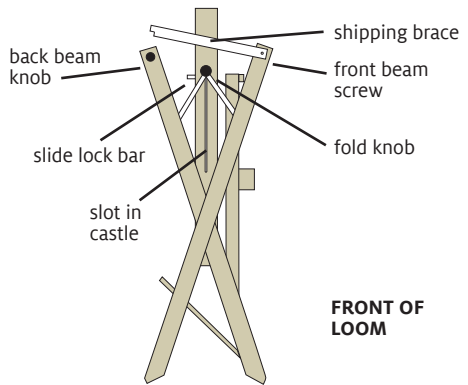

FIGURE 1: UNPACKING AND UNFOLDING
unscrew the front beam screws and barrel nuts holding it in place—see Figure 1. Take the front beam completely off the loom. (The loom ships with the front extension facing inward to prevent damage.)
1. Slightly loosen the black fold knobs on each side of the loom (Figure 1). Generally, a single turn will do.